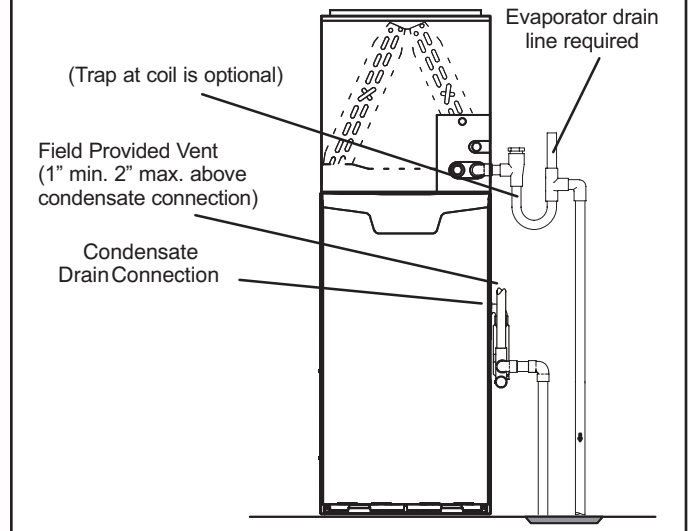
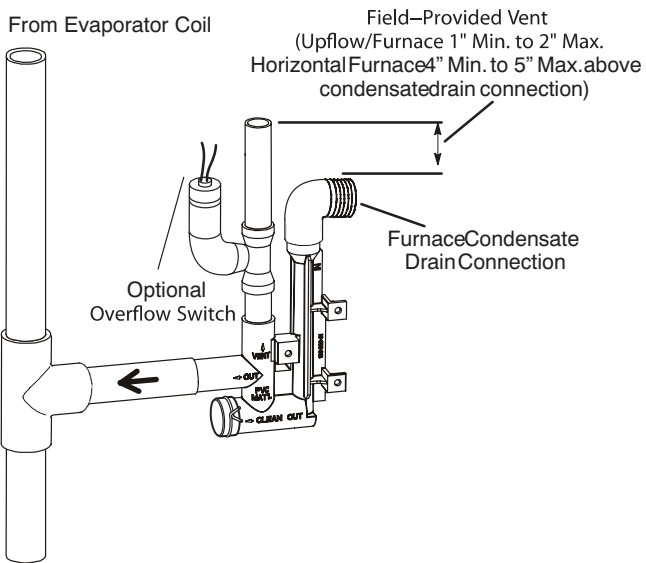
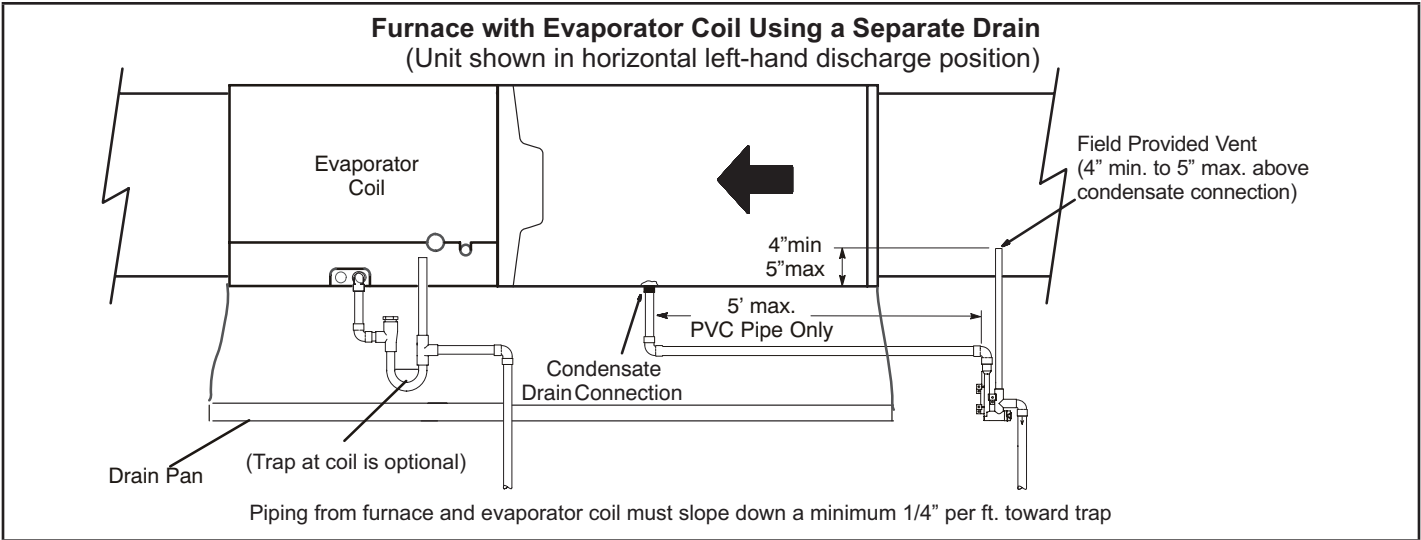
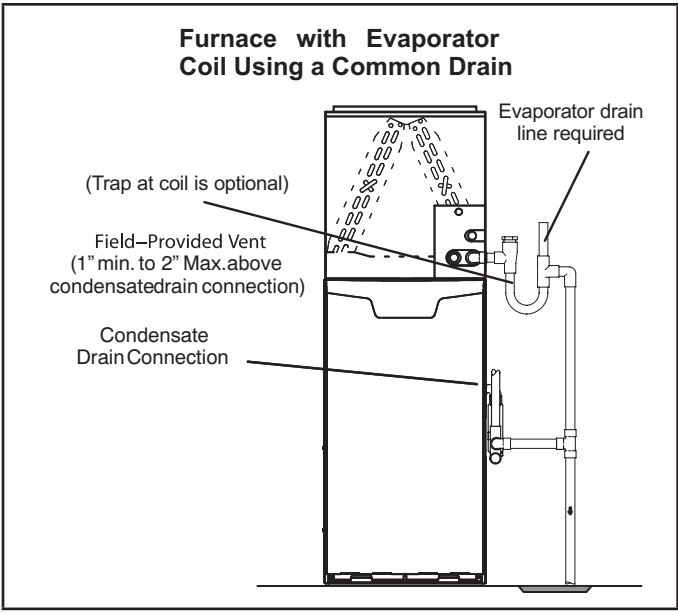

FIGURE 50
FIGURE 49
FIGURE 51
FIGURE 52
- 5 - FIGURE 50 and FIGURE 51 show the furnace and evaporator coil using a separate drain. If necessary the condensate line from the furnace and evaporator coil can drain together. See FIGURE 49, FIGURE 52(upflow furnace) and FIGURE 53.